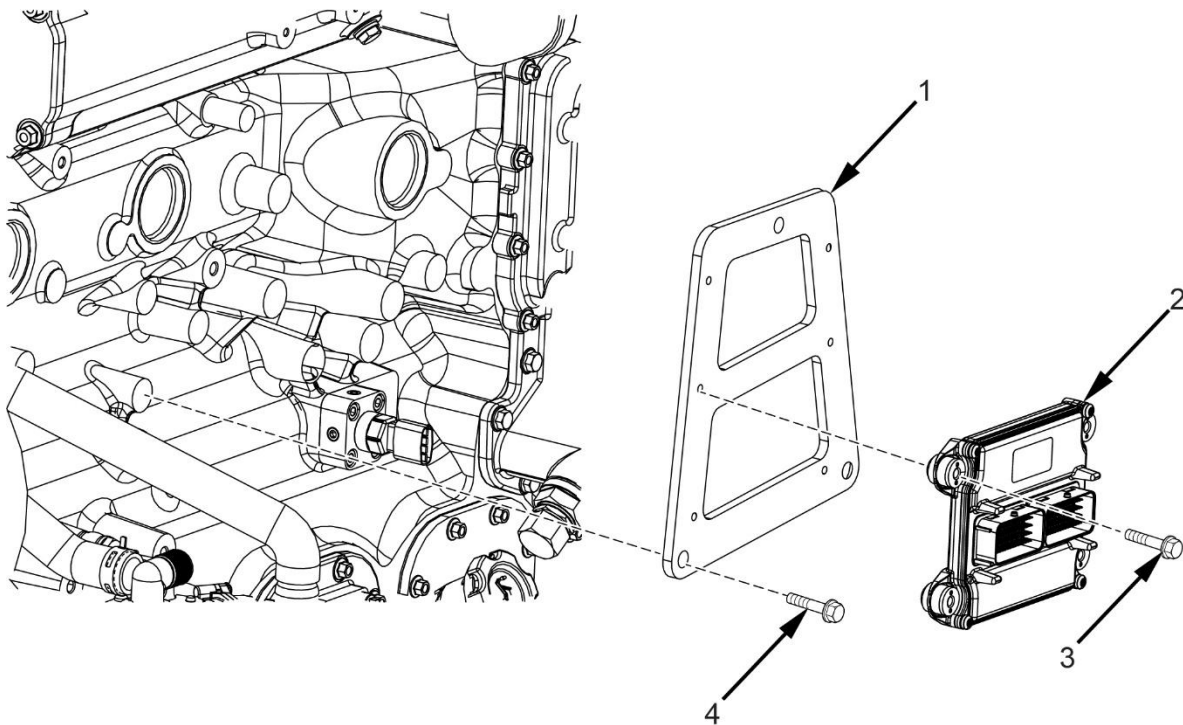

Figure 3. ECM Assembly
3. Remove the bolts (Figure 3, Item 3) from the ECM (Figure 3, Item 2).
4. Remove the ECM (Figure 3, Item 2).
5. Remove the mounting bracket bolts (Figure 3, Items 4).
6. Remove the mounting bracket (Figure 3, Item 1).
1. Place the ECM mounting bracket (Figure 3, Item 1) onto the engine block.
2. Insert and torque the mounting bracket bolts (Figure 3, Items 4).
3. Place the ECM (Figure 3, Item 2) onto the mounting bracket.
4. Insert and torque the bolts (Figure 3, Items 3) to 7 lb-ft.